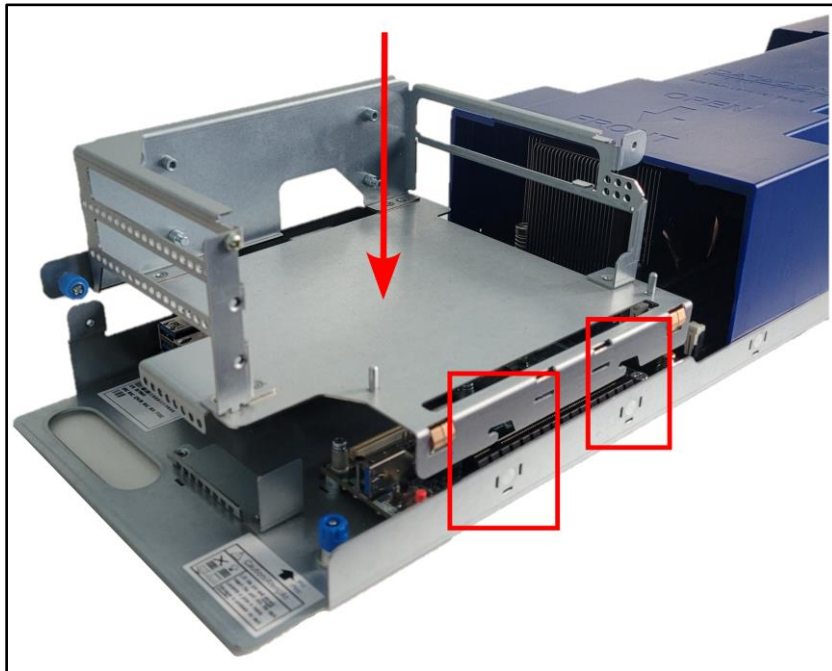
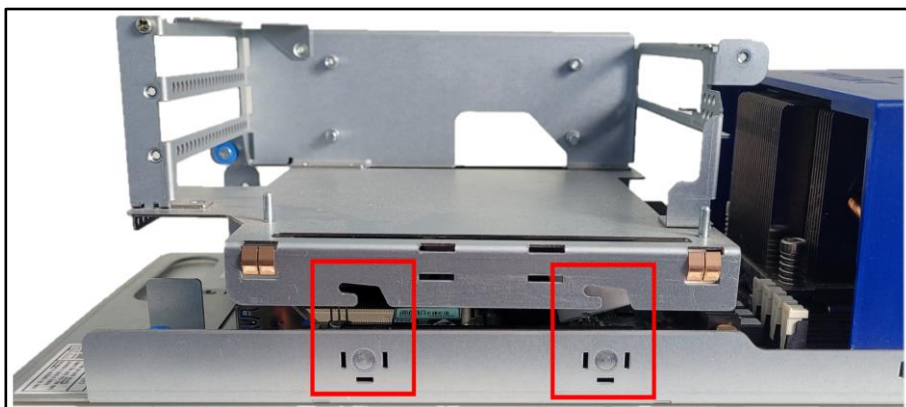
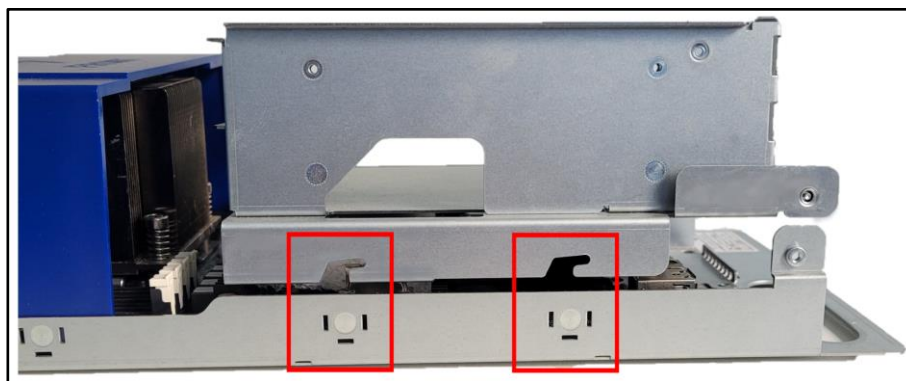

Figure 81: Positioning of the mechanics for riser cards
Figure 82: Alignment of chamfers - right side
Figure 83: Alignment of chamfers - left side
1. Position the mechanics over the motherboard as shown in the Figure 81, aligning the chamfers with the guiding pins of the baseplate (Figure 82 and Figure 83) and move it down until it fits completely.